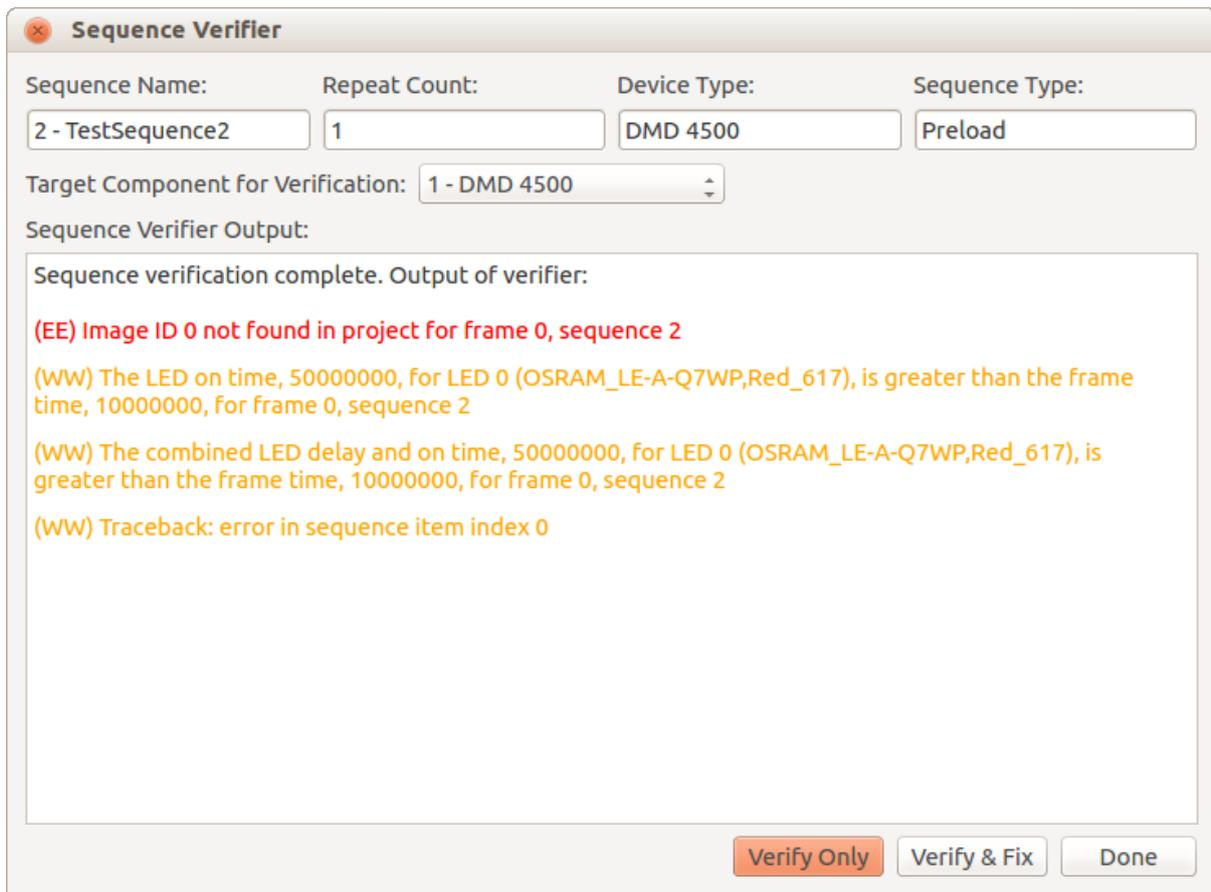

Figure 6.7: Screenshot of the Sequence Verifier dialog.
Fortunately for the most part when creating sequences in the Ajile GUI, most potential sequence problems are prevented from occurring right up front while inputting in the various parameters. The sequence verifier is however available to spot any remaining issues. To run the sequence verifier in the GUI, first select the sequence to be verified then click on the “Verify Sequence” button in the Sequence Editor which is in the “Actions” set of buttons. This presents the user with the Sequence Verifier dialog box, shown in Figure 6.7. By clicking on the “Verify Only” button, the selected sequence is verified against the target component and a list of any errors or warnings are printed in the dialog. Warnings are printed in orange and are preceded by (WW) and errors are printed in red and are preceded by (EE). Warning are non-critical and can be fixed by clicking on the “Verify & Fix” button. Any unfixed warnings will be automatically fixed when they are run on the target device regardless. Errors on the other hand are deemed critical and cannot be fixed automatically. The example in Figure 6.7 shows one critical error - one of the frames in the sequence does not have a valid Image ID assigned, and so the sequence will not be able to run. One will need to manually fix any errors found in the verifier - the fix in this example would be to select a valid image for the frame in question.